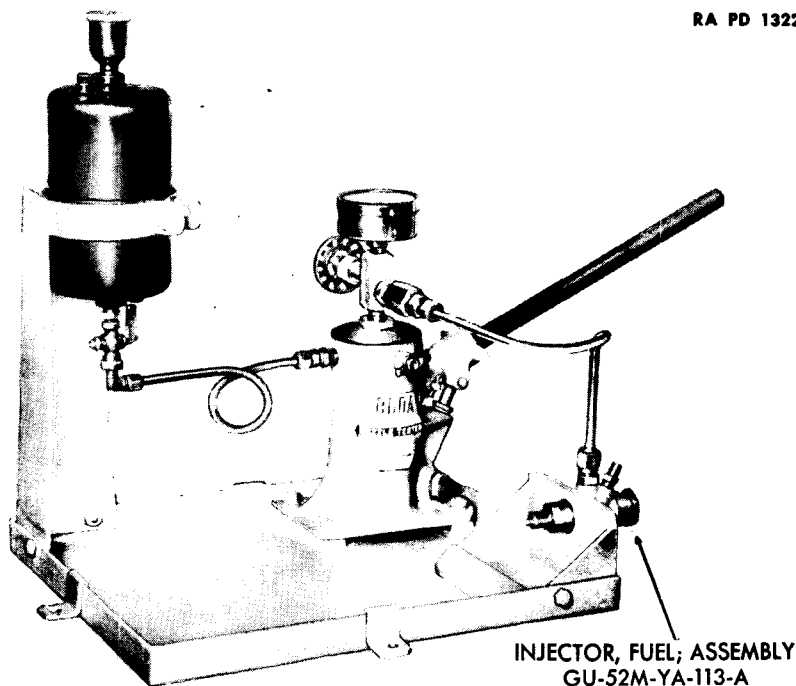
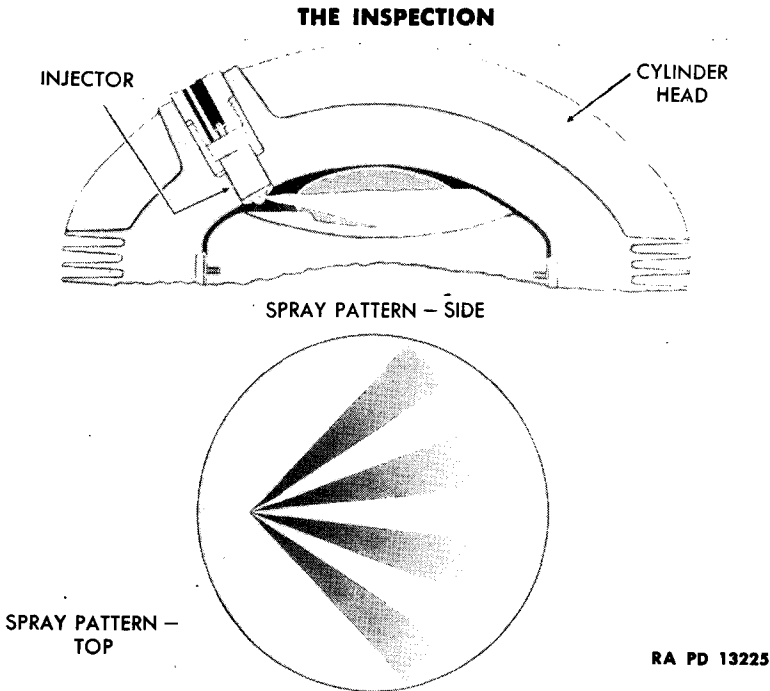

Figure 61—Fuel Injector Test Unit
Figure 62—The Injector Spray Pattern
77. CHECK INJECTION PRESSURE (figs. 61 and 62).
in the valve body. Do not let dirt enter the injector. Attach the assembly to the fuel injector test unit and test the injection pressure and atomization (fig. 61). The desired pressure required to break or open the nozzle spray valve is 2,650 pounds. The nozzle has four spray holes, which should release an evenly distributed fan-shaped spray pattern (fig. 62). The valve should break sharp and clean, without leaking or dripping, either before or after the injection occurs. **NOTE:** Faulty injector valve operation is most commonly caused by dirt or other foreign materials contained in the fuel. Dirt prevents the valve from closing or causes the pintle valve to stick in the nozzle body. In either case it will be necessary to disassemble the nozzle.